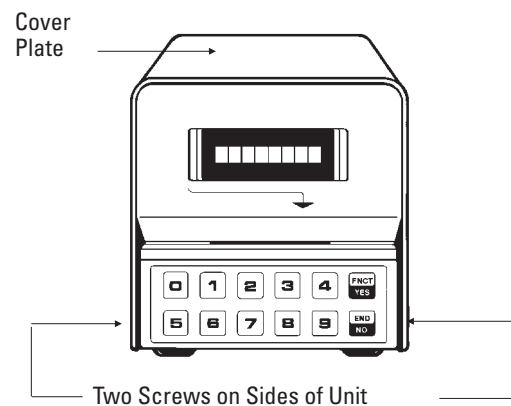

Figure 3-1:
- 1 Use the Allen Wrench to loosen the two screws on each side of the Auxiliary Card Reader (Figure 3-1).
- 2 Lift up on and remove the Cover Plate (Figure 3-1).